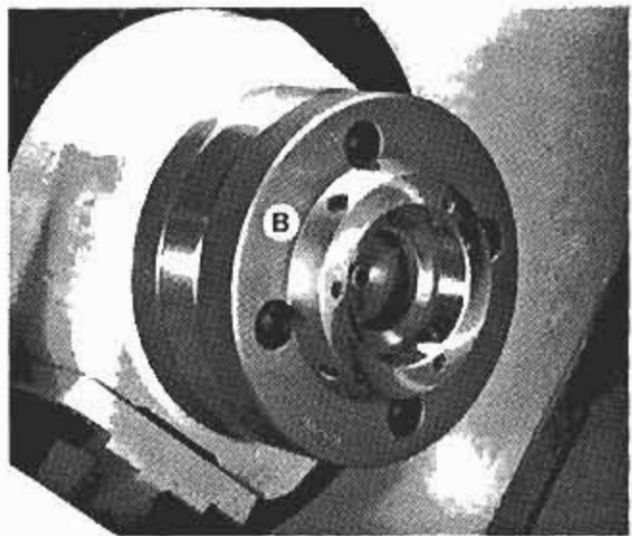

Figure 4 - Spindle Collar
2. Mount spindle collar "B", Figure 4, to the spindle with four screws.